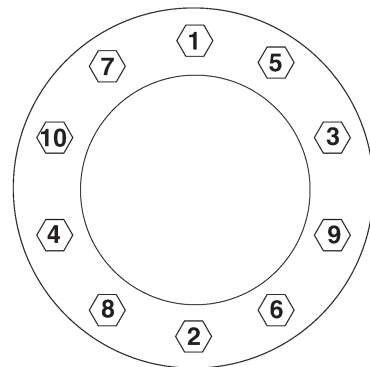

Figure 24
6. When you tighten the wheel nuts, refer to the pattern shown in Fig.24. Tighten the nuts to the specified torque (tightening torque: 600-680N.m and coat tightening glue on the mounting bolts)